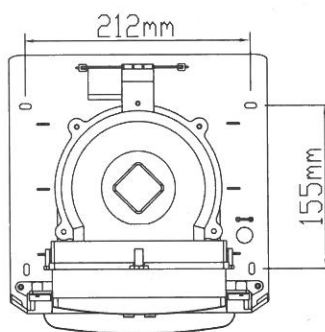

Fig 2
- Using the base as a template, mark out the fixing holes on the mounting surface. See fig 2